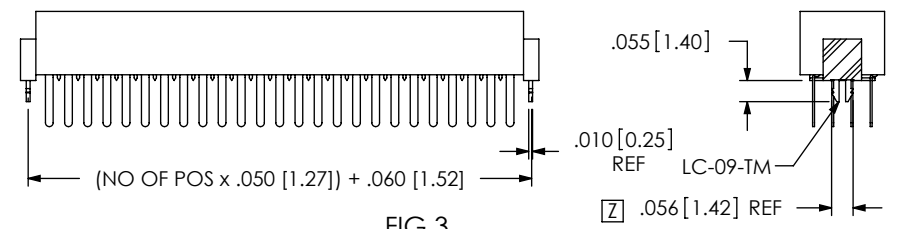

FIG 3  $\text{\textcircled{Z}}$
- OPTION 1: -LC: LOCKING CLIP (SEE NOTE 3) (USE (2) LC-09-TM) (SEE FIG 3)